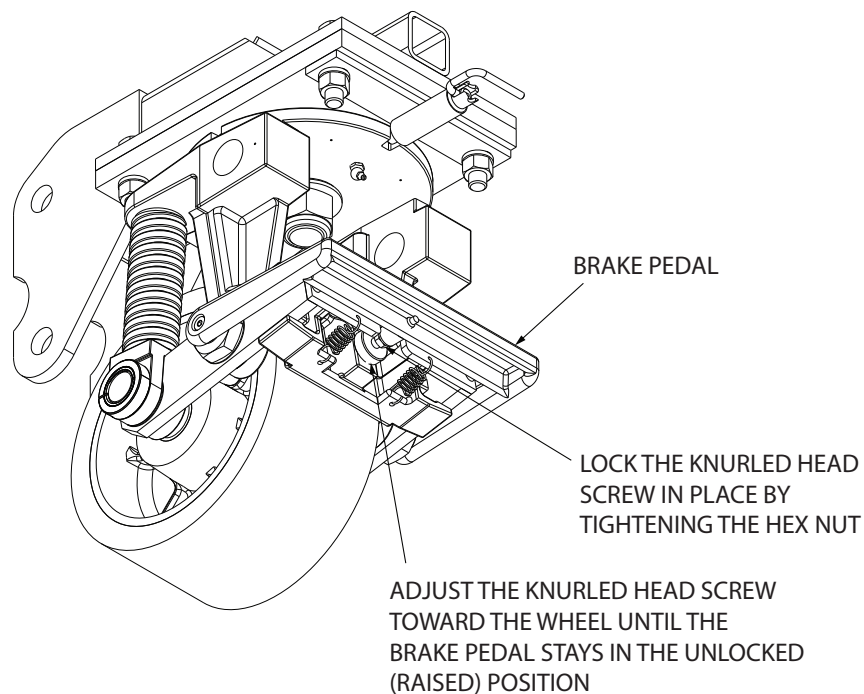

Figure 5.3-1
5.3 Caster Brake Adjustment (Figure 5.3-1) (Reference IPB Figure 2)